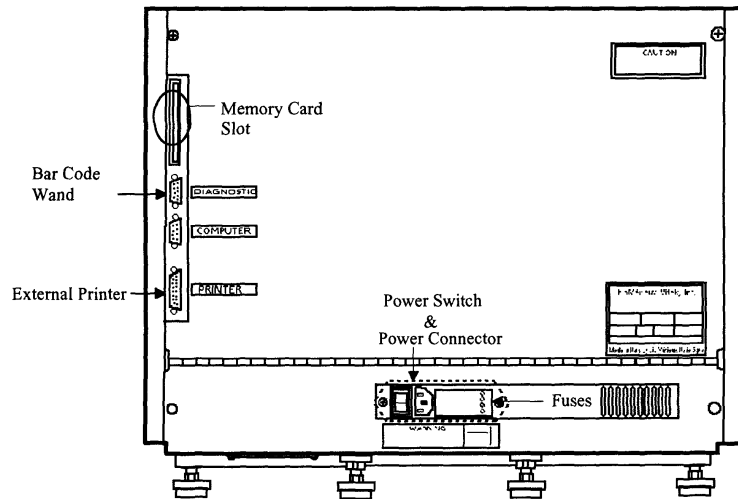

Figure 2-5 Bar Code and External Printer Connector Locations
- ◆ Connect the Bar Code Reader to the DIAGNOSTIC port on the rear of the mini VIDAS (see Figure 2-5).
- ◆ Connect the DB 25-pin connector to the **PRINTER** port on the back of the mini VIDAS (see Figure 2-5).